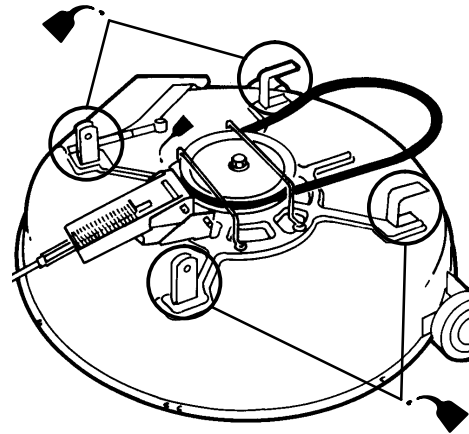

Figure 22
5. Lubricate mower mounts (Fig. 22). Wipe up any excess oil.